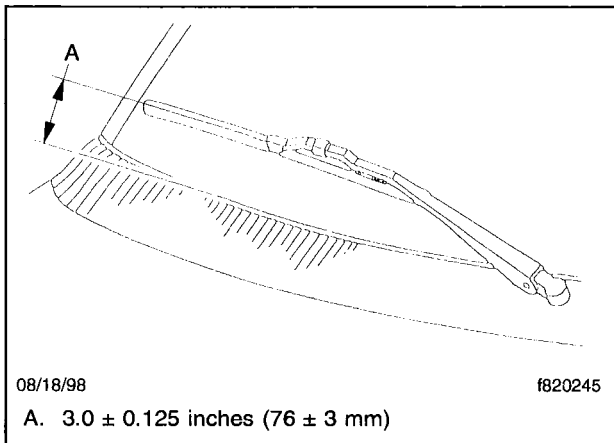

Fig. 8, Passenger-Side Windshield Blade Park Dimension
- 15.2 Verify that the distance between the center of the passenger-side windshield wiper blade and the cowl top vent panel is within 3.0 ± 0.125 inches (76 \pm 3 mm). See **Fig. 8**.